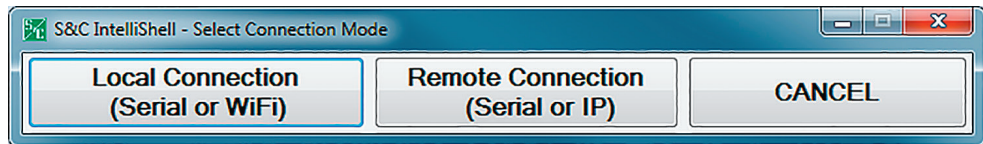

Figure 2. IntelliShell—Select Connection Mode dialog box.
STEP 4. Click on the **Local Connection** button. See Figure 2.